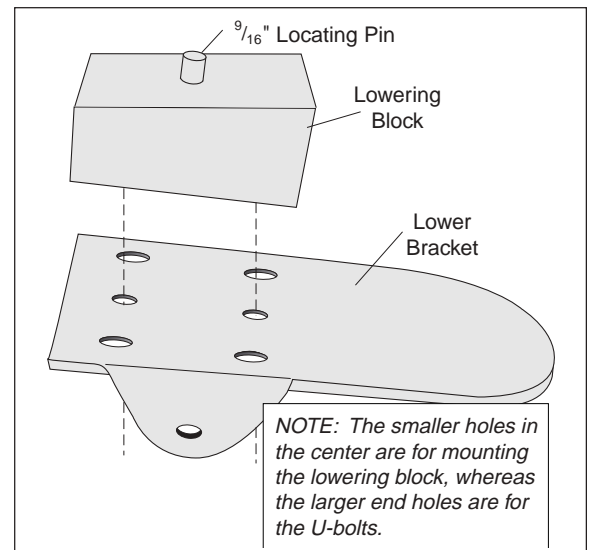

Figure 7
- a. Bolt the lowering block (F) (wedge oriented towards the front of the vehicle) to the shock mount and lower bracket (A/B) using bolts (BB), lock washers (EE), flat washers (DD). To bolt, use the center mounting holes in the shock mount and lower bracket (Figure 7).
- d. Install a short $\frac{9}{16}$ " diameter locating pin (G) in the top of the lowering block (Figure 7).